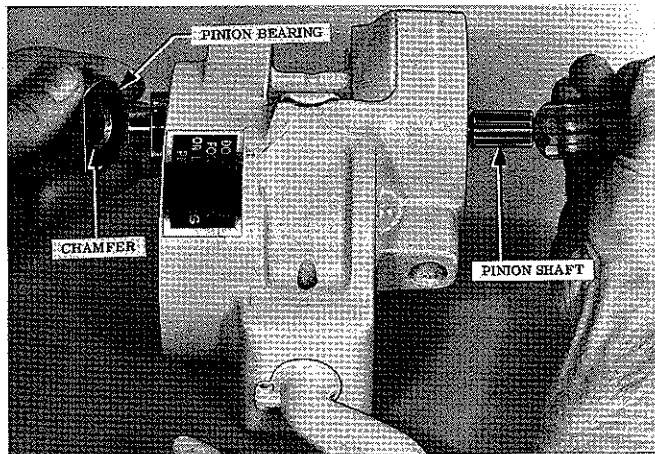
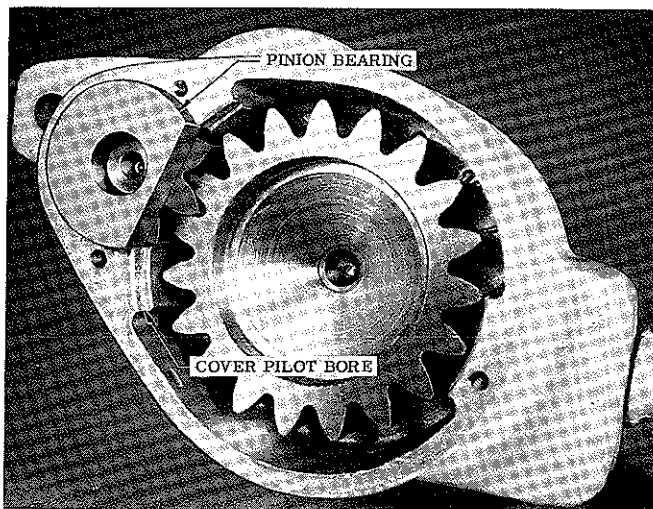

Figure 6-9. Removing Pinion Bearing from Frame and Pinion Shaft
Figure 6-13. Positioning of Pinion Bearing
- Remove pinion bearing from pinion shaft and bore in frame. Bearing can be started but of bore by tapping on end of shaft as shown in Figure 6-9.
- b. When installing pinion bearing, be certain to position it so chamfer in bore faces the pinion gear. See Figure 6-9. The flat on side of bearing must be perfectly aligned with cover pilot bore in frame, as shown in Figure 6-13.